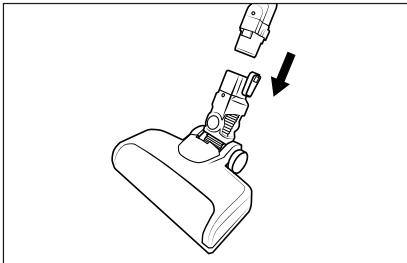

Fig. 2
- 2) Push the suction pipe **23** into the floor brush **21** until it audibly clicks into place (see Fig. 2).